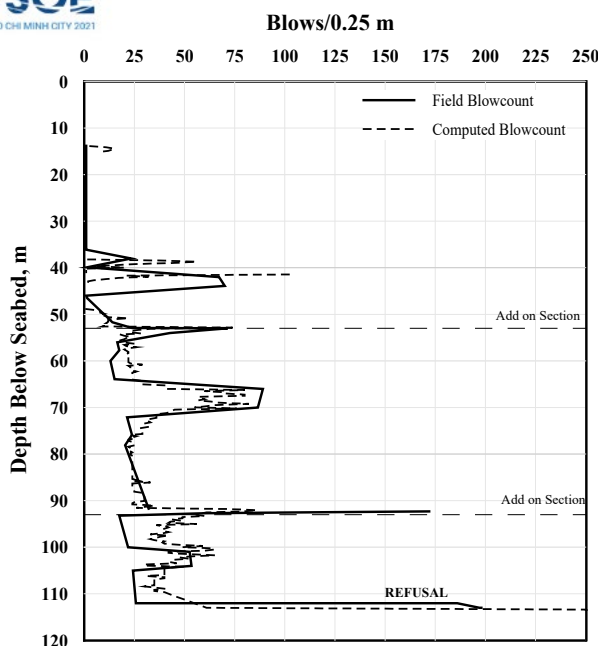

Fig 9: Blow count-Depth Matching (GRL WEAP)
- Blowcount-Depth matching is shown in Figure 9